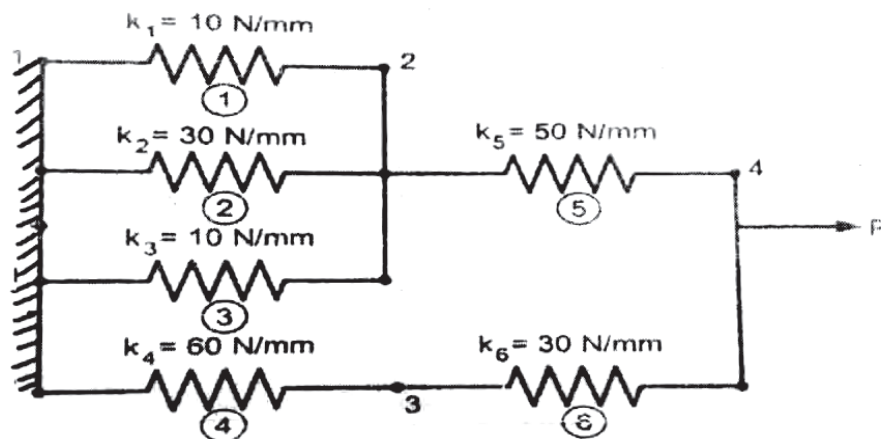

Fig. 1a
**Q1) a)** A system of spring as shown in fig 1a. One end of the assembly is fixed and a force of  $P = 2000 \text{ N}$  is applied at other end. Using finite element method determine [10]